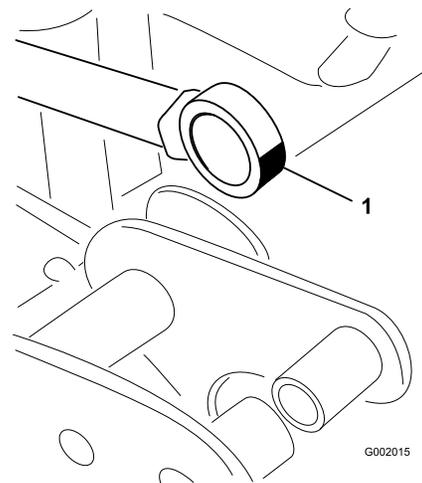

Figure 72
5. Swivel the rod-end bearing and apply grease into the bearing (Figure 72).